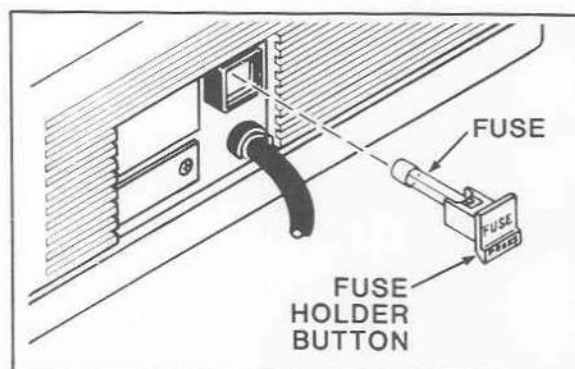

Figure 5.12. Main Power Fuse.
The Model 4452 QBC II Plus Reader incorporates a single main power fuse, located in the back of the instrument (Figure 5.12). The fuse has the following rating: 3 AG 1½ Amp Slo-Blo. Spare fuse are supplied with the Reader; additional fuse can be ordered from Becton Dickinson (Part No. 2510-623-814).
- 2) Press the bottom of the white "FUSE" holder button located in the back of the Reader (Figure 5.12). The holder button will release from its housing along with the fuse.